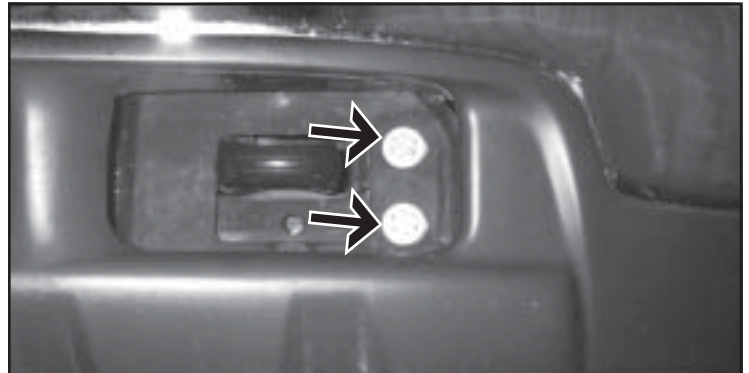

FIG. 7—Bumper bolts
27. Remove the front bumper. Remove the four bolts (two on a side) that mount the bumper to the frame (Fig. 7). Remove the bumper from the vehicle.